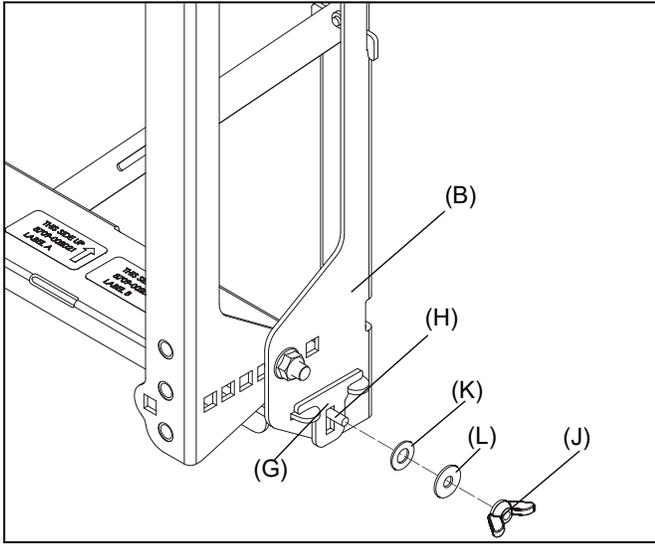

Figure 5
- Use #10-24 x 5/8" carriage bolt (H), #10-24 wing nut (J), 1/4" washer (K) and #10 washer (L) to secure locking tab (G) to right wall bracket (B). (See Figure 5)